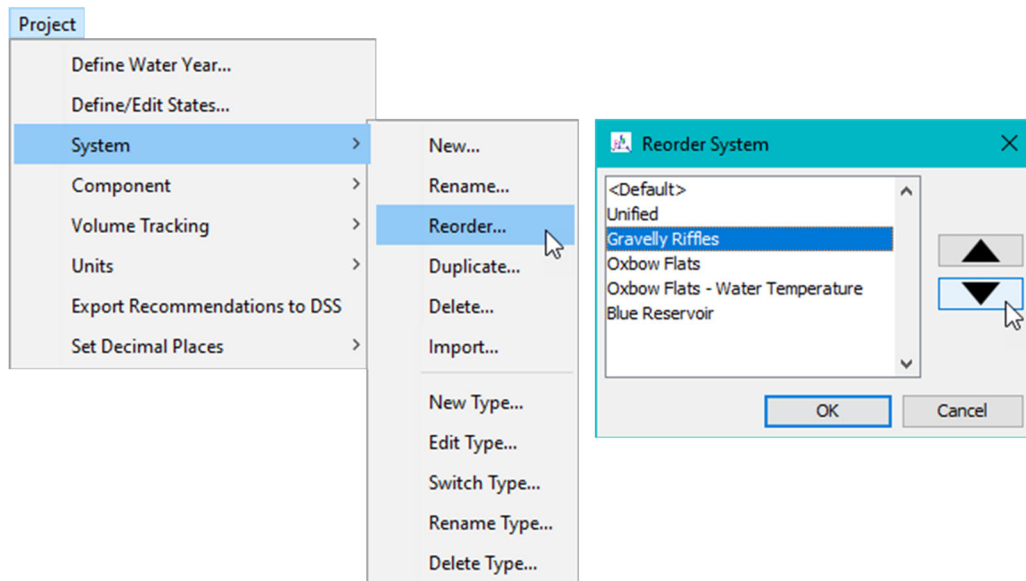

Figure 5. Reordering systems.
- System Reorder. A new menu option and interface were added that allows users to reorder the systems of RPT applications, which is useful for visual and organizational purposes (Figure 5).